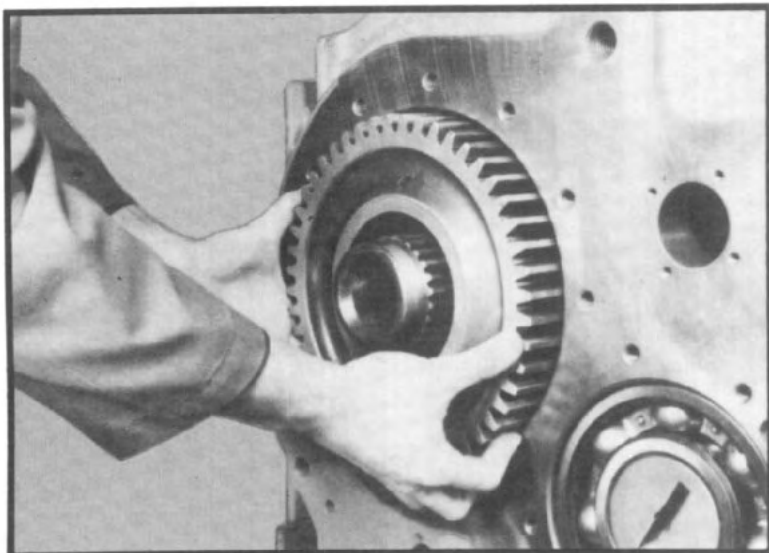

Fig. 145
3.10 Install direct drive gear through rear case bore and onto rear of shaft with clutch face inwards. (See fig. 145.) Remove chain hoist support from shaft assembly.